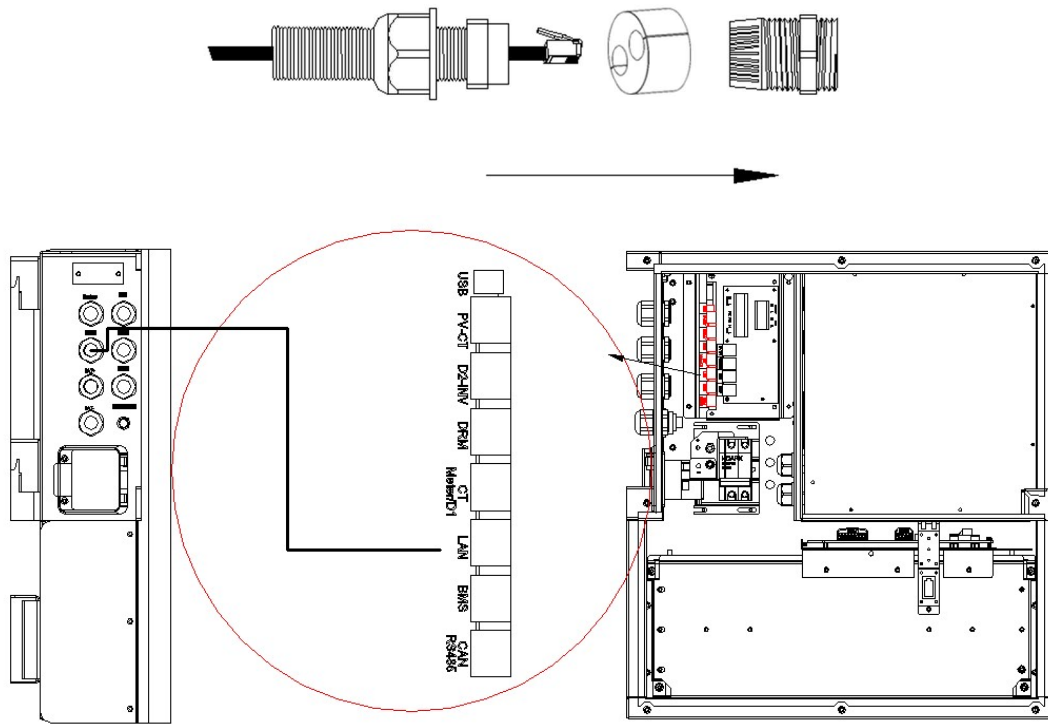

Figure 2.13 Ethernet Communication Cable Wiring
Step 8: Connect the ethernet communication cable, as shown in Figure 2.13. It won't be needed if using WiFi module.